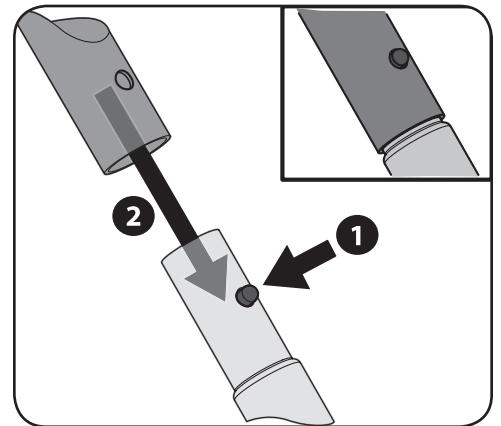

Figure 3-6
7. The frame pieces connect with a spring clip inserted into the hole of the connecting part to secure each piece in place. Press down on the spring clip button and slide it inside the connecting piece until it snaps into the hole. See Figure 3-6.